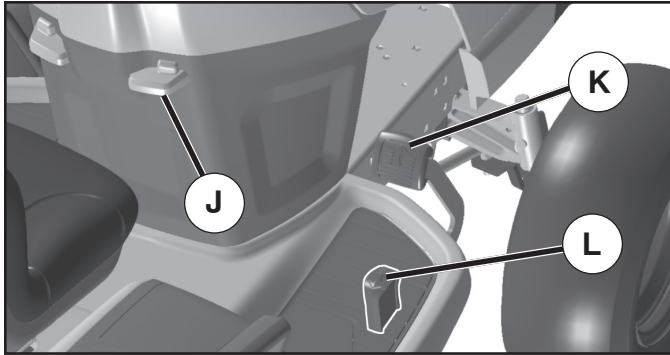

Fig. 18
(See Fig. 18)
- Slowly depress forward (K) or reverse (L) drive pedal to begin movement. Ground speed increases the further down the pedal is depressed.
## TO USE CRUISE CONTROL (J) (See Fig. 18)